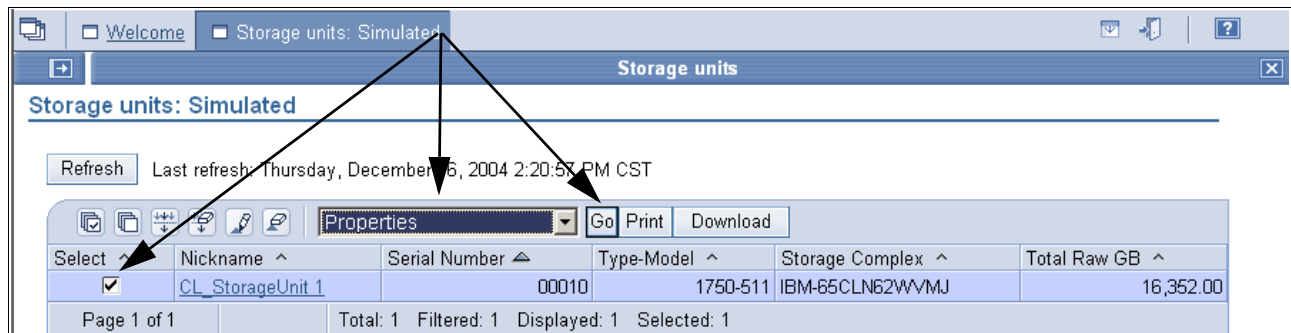

Figure 9-51 View of the storage unit with the radio button and the Properties selected
3. Select the check box beside the storage unit name, as shown in Figure 9-51.
4. Select **Properties** from the pull-down as shown in Figure 9-51.